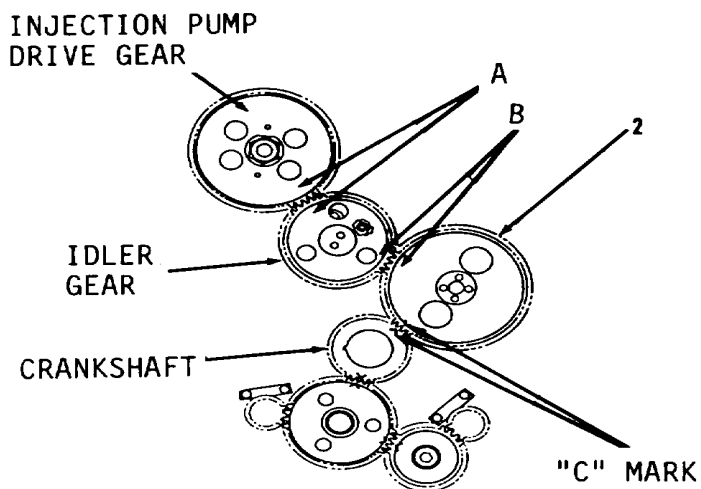

Figure 13-52.
1. Turn crankshaft until "C" mark on the crankshaft gear is in alignment with the "C" mark on the camshaft gear (2, Figure 13-52).